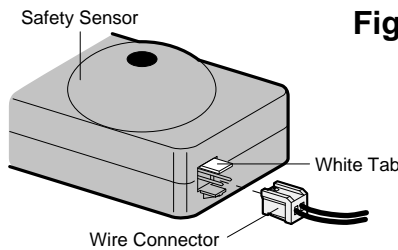

Figure 6
- Insert the wire connector into each sensor and push until you hear a click, Figure 6. The white tab on the sensor should be flush with the back of the connector.